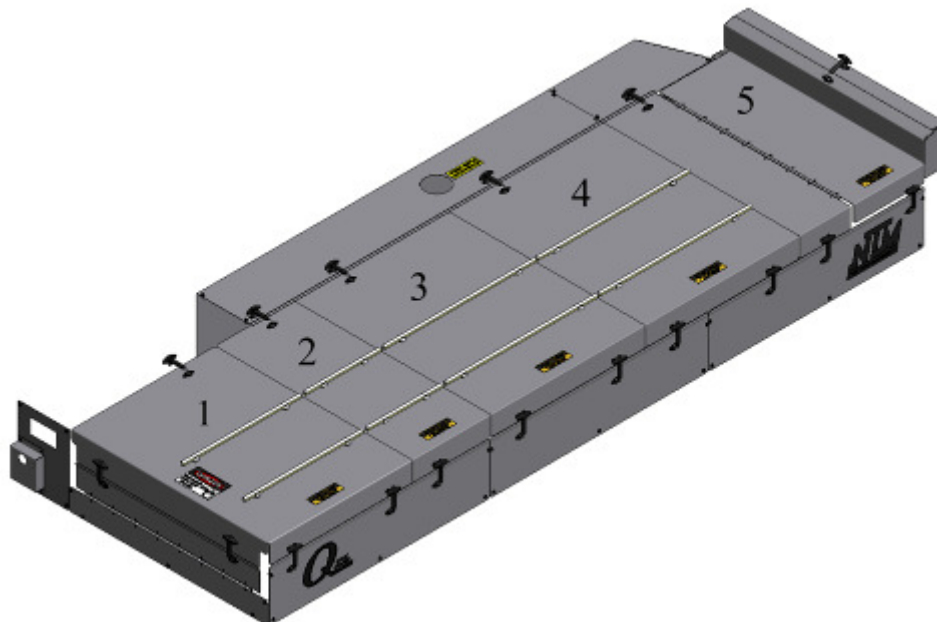

Figure 37: Remove Top Covers
1. Remove Top Covers number 1, 2, 3, 4, and 5 (Figure 37) and set aside.